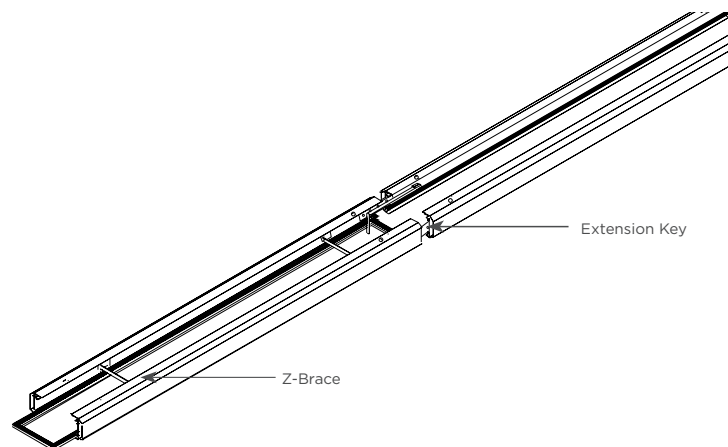

Figure 6
- 9** Attach one HK02 cable to the next section. Insert frame section B into the extension keys of section A frame, as shown in figure 6.